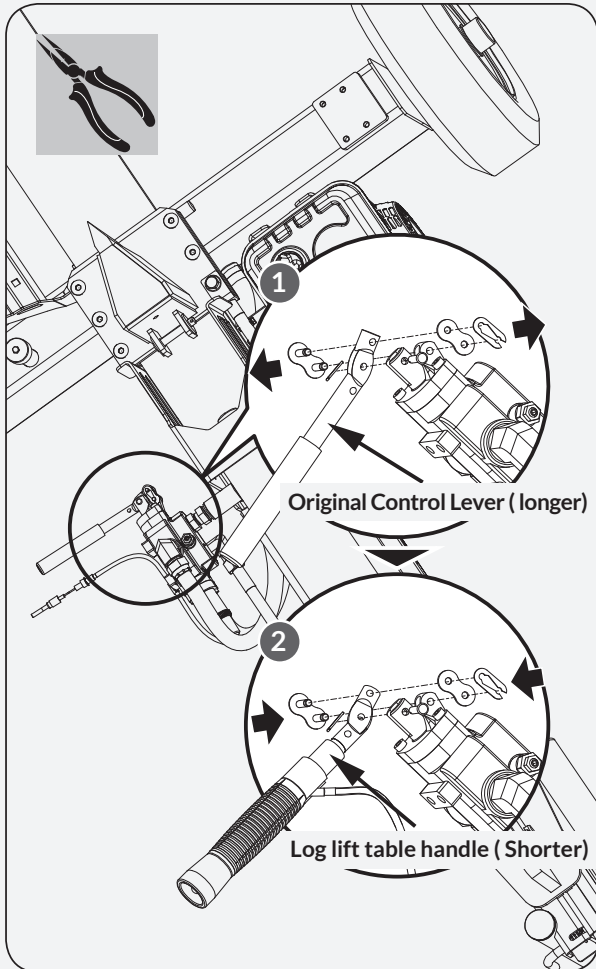

Figure 15
1. Disassemble the original long control lever (See **Figure 15**, illustration 1), assemble the shorter log lift table control lever instead with the same hardware parts (See **Figure 15**, illustration 2)